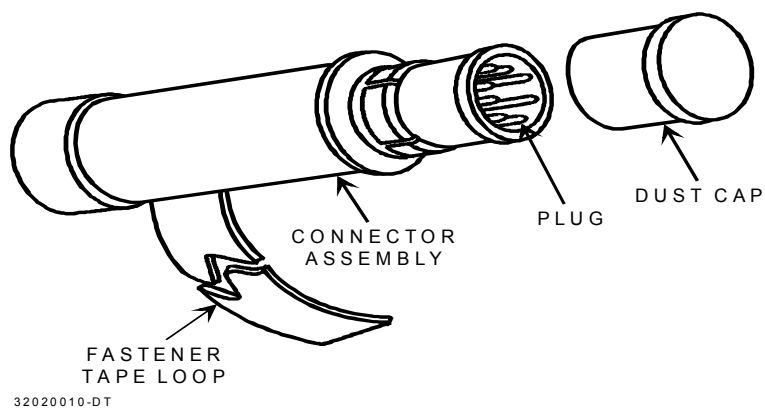

Figure 2-32. Shorting Plug Installation.
- a. Inspect connector assembly (Figure 2-32) for damage.
- b. Remove dust cap and check plug for dirt and/or damage. (See Figure 2-32.)
- i. Using fastener tape loop (Figure 2-32), place cable underneath gun mount and secure cable and shorting plug out of the way so that it will not interfere with, or be damaged by movement of the gun.